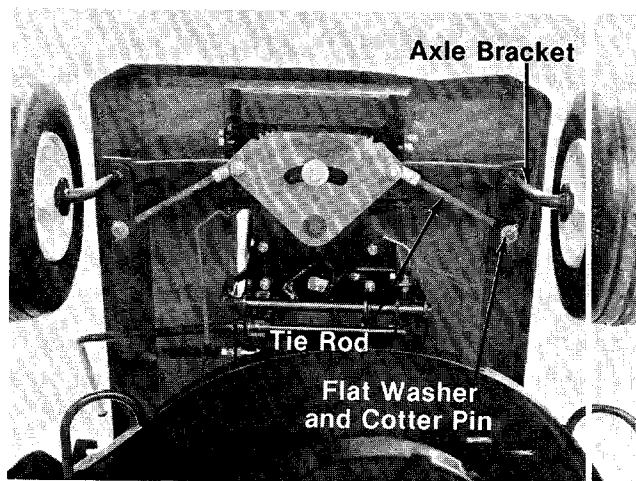

FIGURE 27.
The caster (forward slant of the king pin) and the camber (tilt of the wheels out at the top) require no adjustment. Automotive steering principles have been used to determine the caster and camber on the mower. The front wheels should toe-in 1/8 inch. See figure 27. To adjust, follow these steps:
1. Remove the cotter pin and flat washer which hold the tie rod to the axle bracket. See figure 27.